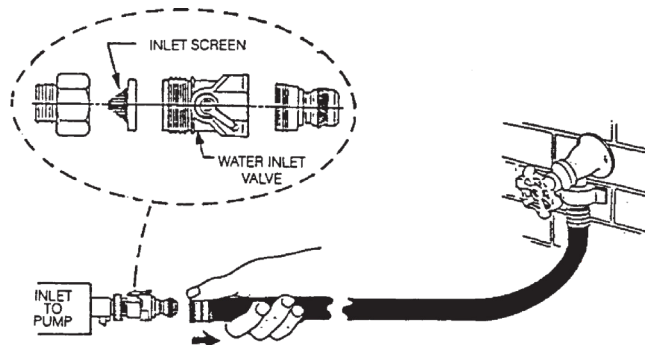

Fig. 2
2. The inlet screen must be cleaned before each use to avoid damage to the pump or pulsator. To clean the inlet screen, remove the hose by pulling back on the disconnect fitting at the water inlet valve. (See Fig. 2.) Remove the water inlet valve and screen. Rinse the screen thoroughly with water. Replace the screen, water inlet valve and hose.